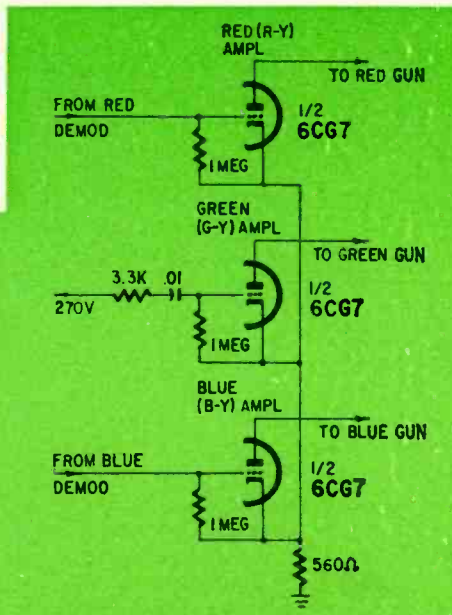

Fig. 6—Color amplifiers. Green signal is "made right in your own home" by subtracting red-blue signal from total color signal.
6. Color Amplifiers (Fig. 6). Three simple triode amplifier stages. But, you still want to know, where does the green come from? We're putting our red and blue signals onto the grids of the top and bottom tubes. The cathodes are all tied together. So, the cathode voltage on the green amplifier is a combination of the other two colors. Now, the whole color signal is red + blue + green, isn't it? So, what would we have left if we